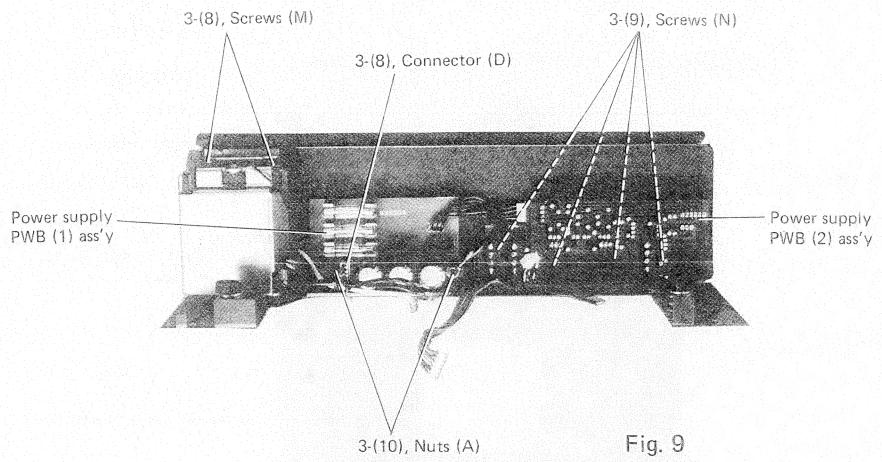

Fig. 9
- (8) Dismount power transformer. (See fig. 9)
- (10) Remove 2 pcs. of nuts (A) so that power supply PWB (1) is dismantled. (See fig. 9)